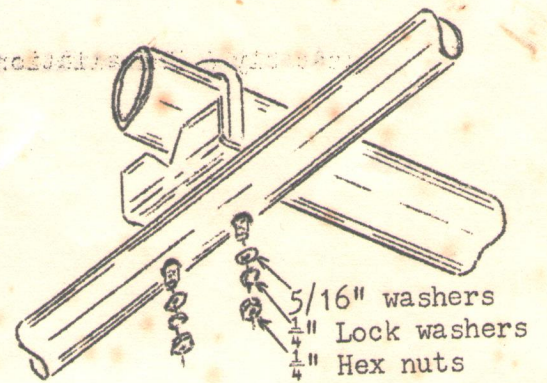

FIGURE 2 BOOM/ELEMENT BRACKET
- (5) Mount the element/boom brackets on the elements as shown in Figure 2. Mount the elements on the boom, align them, and tighten securely.